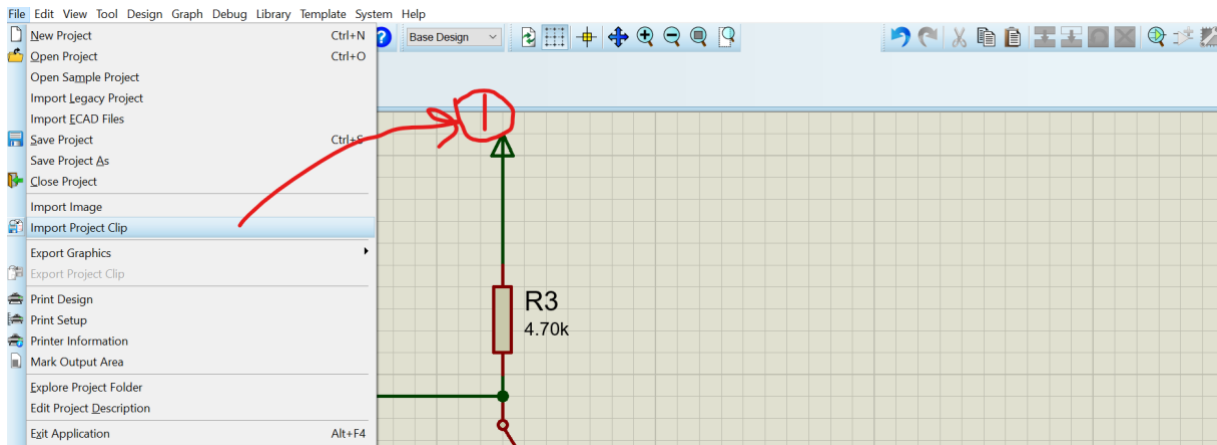
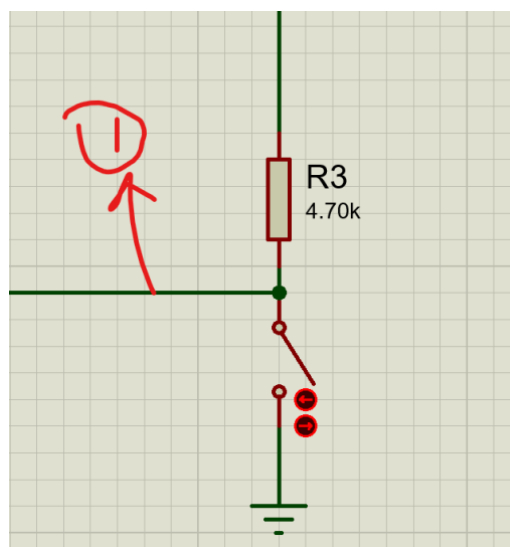

Figure 5: Instructions on importing the switch.pdsclip
Figure 6: Instructions on connecting the switch to the microcontroller.
From “File”, you will press “Import Project Clip” (Figure 5). You should choose the file “switch.pdsclip” (provided in the assignment folder). You will click on a space and a purple illustration of the switch will occur (And you can place it into your project). The switch will be placed after you click on the space you chose for the switch. You will connect the switch to the microcontroller ports through the node shown in (1) in Figure 6. Notice the ground connection in Figures 5 and 6. Also, notice the VCC connection in Figure 5.